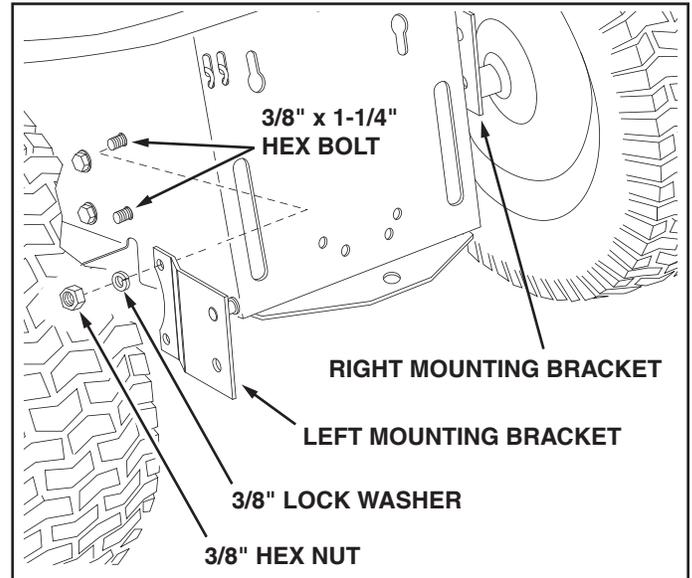

FIGURE 2A
### IF YOUR TRACTOR LOOKS LIKE FIGURE 2A
2. Install two 3/8" x 1-1/4" hex bolts in the left side of the tractor as shown. Attach the left (L.H.) Mounting Bracket (pin at top facing in) to the bolts using two 3/8" lock washers and 3/8" hex nuts. Repeat on the right side. See figure 2A.